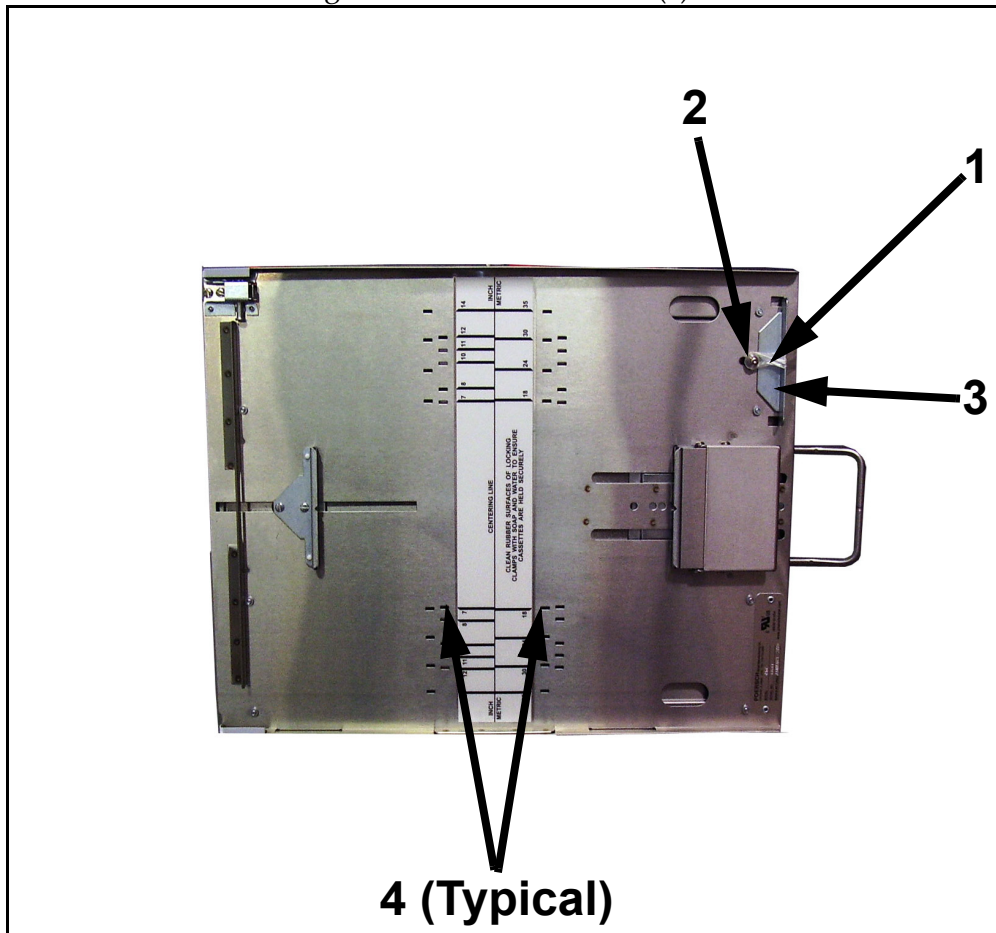

Figure 2-43. Cassette Tray Preparation
- 78 Remove the shipping tape (1 in Figure 2-43) from the cassette tray.
- 79 Pull the pin (2) back and remove the cassette blocker (3).
- 80 Place the guide in the desired slots (4).